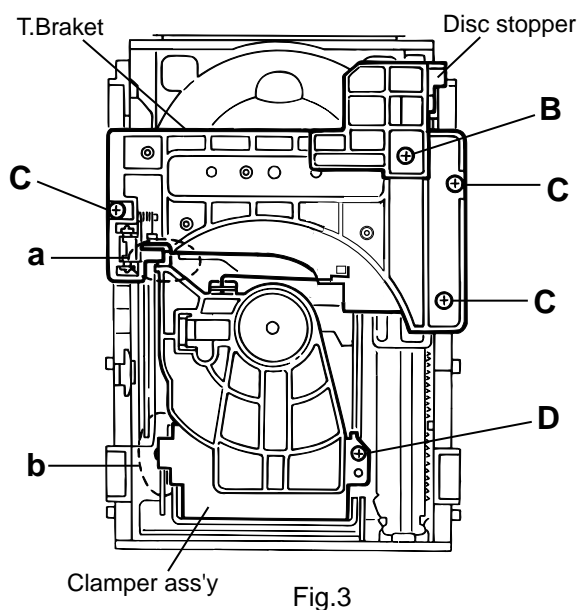

Fig.3
5. Remove the screw **B** retaining the disc stopper (See Fig.3).
6. Remove the three screws **C** retaining the T.bracket (See Fig.3).
7. Remove the screw **D** retaining the clamber assembly (See Fig.3).